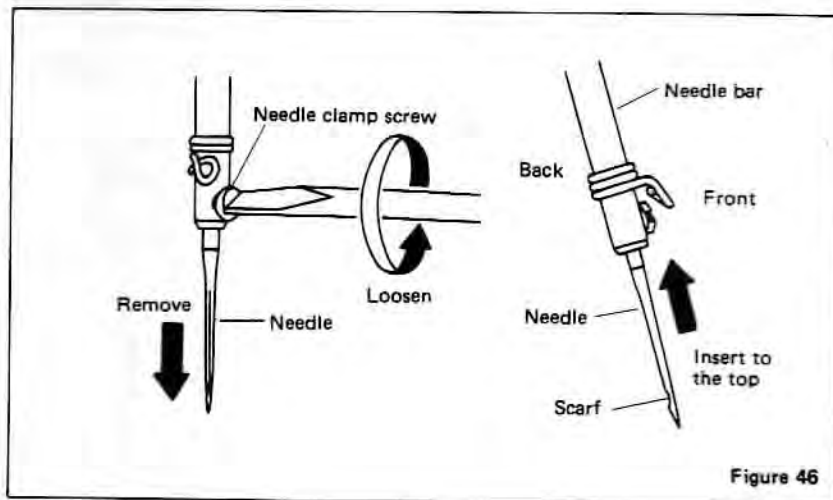

Figure 46
4. When inserting the needle, be sure to have the long thread guide groove facing the front. Do not mistake the thread guide groove of the needle for the scarf of the needle (See Figure 46).